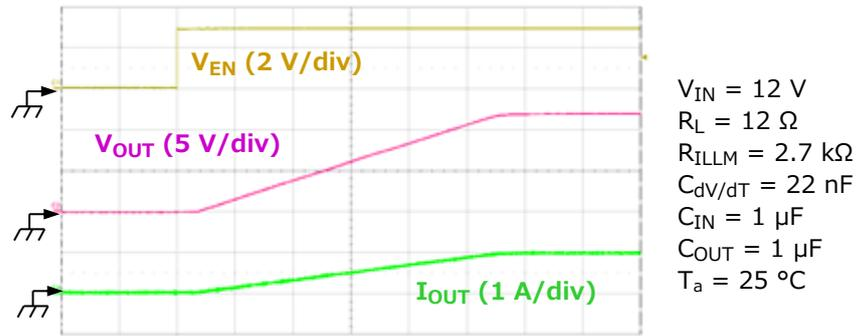

Figure 6.13 Waveforms of the inrush current limiting (slew rate control) circuit
When V_{OUT} is turned on, inrush current flows, charging the capacitor on the load side. Excessive inrush current might trip the overcurrent protection circuit, causing V_{OUT} to become unable to rise or producing V_{IN} undershoot and V_{OUT} overshoot. To prevent these situations, the inrush current limiting circuit controls the rising slew rate of the V_{OUT} voltage. Figure 6.13 shows the rising V_{OUT} voltage and inrush current when the inrush current is limited.
3. After TSD is tripped	(Figure 6.13)